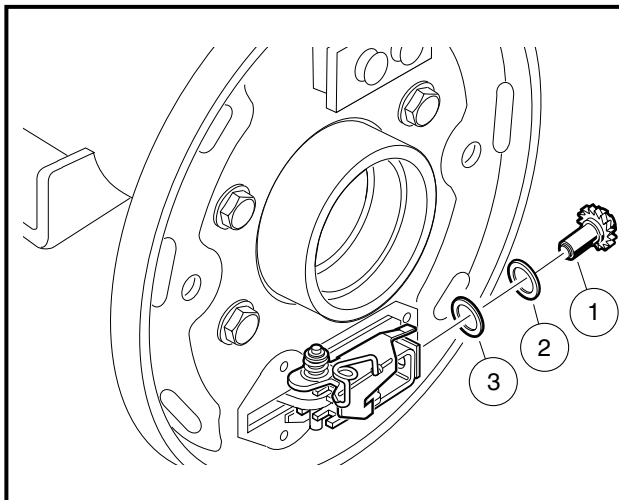

Figure 6-7 Remove Adjuster Wheel
- Self-Adjusting Brake Vehicles Only:** Remove the adjuster wheel (1) with two washers (2 and 3) from the backing plate (**Figure 6-7, Page 6-5**).